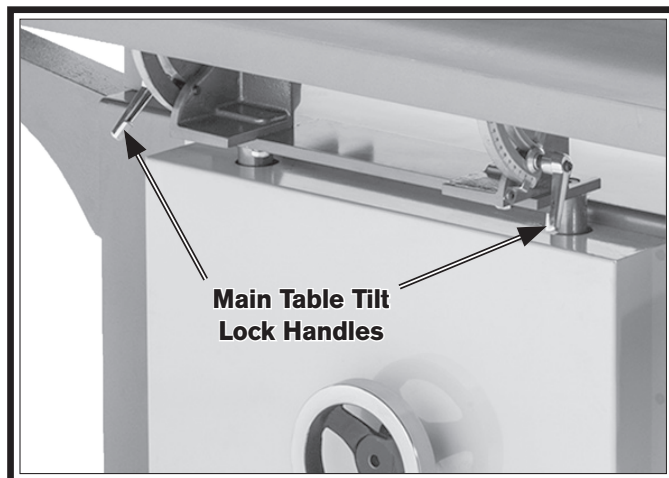

Figure 37. Location of main table tilt lock handles.
1. Loosen main table tilt lock handles (see **Figure 37**).